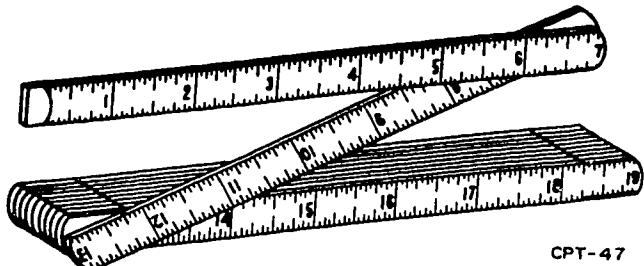

Figure 1-26. Folding rule.
**Folding rule.** The folding rule shown in figure 1-26 is typical of this kind of rule, which unfolds to 6 feet and is